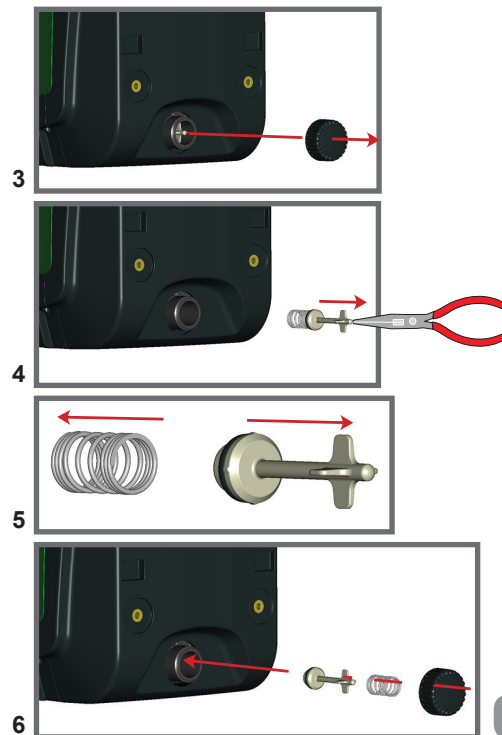

Figure 19
- 3 - remove the drainage cap anyway, taking care not to drop the O-ring (Fig.19);